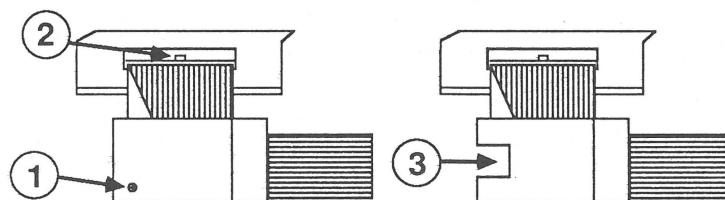

FIGURE 12
- a) One is held in position by a screw (Figure 12, #1).
- b) The other is held by a metal tab that is part of the frame (Figure 12, #3).
4. Push the carriage assembly to the far left. Remove the screw that holds the ribbon retainer in place (Figure 12, #1).
5. Insert the flathead screwdriver in the notch on the connector on the drive PCB (Figure 12, #2). Gently turn the screwdriver, and the connector will pop out about 1/4 inch.
1. Insert the flexible cable in the connector on the drive PCB (Figure 12, #2). Push the connector in.
2. Replace the ribbon retainer and the screw that holds down the retainer for the flexible cable (Figure 12, #1).